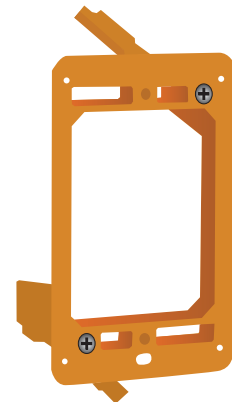

Fig 1. Single-gang, low-voltage mounting bracket.
1. Cut an opening in the wall of the isolation room to receive the supplied single-gang "old work" low voltage mounting bracket (Figure 1) for the remote sensor module. Nominal dimensions for the cutout are 3.65" H x 2.15" W.
1. Cut an opening in the wall adjacent to the door of the isolation room for installing the supplied single-gang "old work" low voltage mounting bracket (Figure 1) for the touch screen display module. Nominal dimensions for the cutout are 3.65" H x 2.15" W.